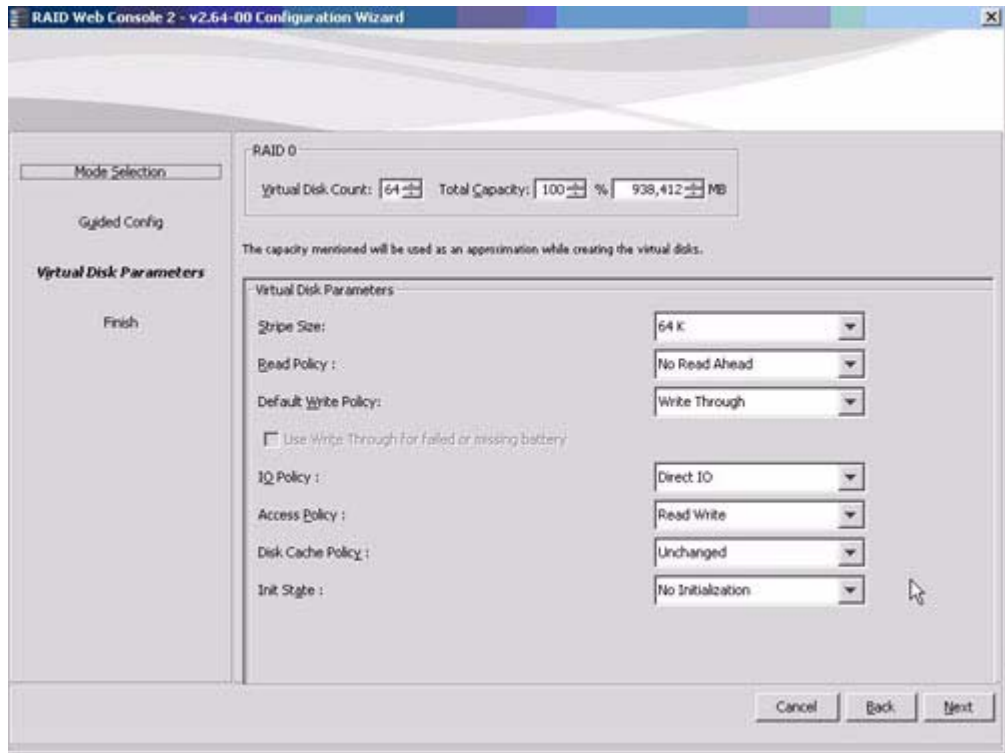

Figure 50. Guided Configuration – Parameters
4. Click **Next** to continue to the next screen, as shown in Figure 50.